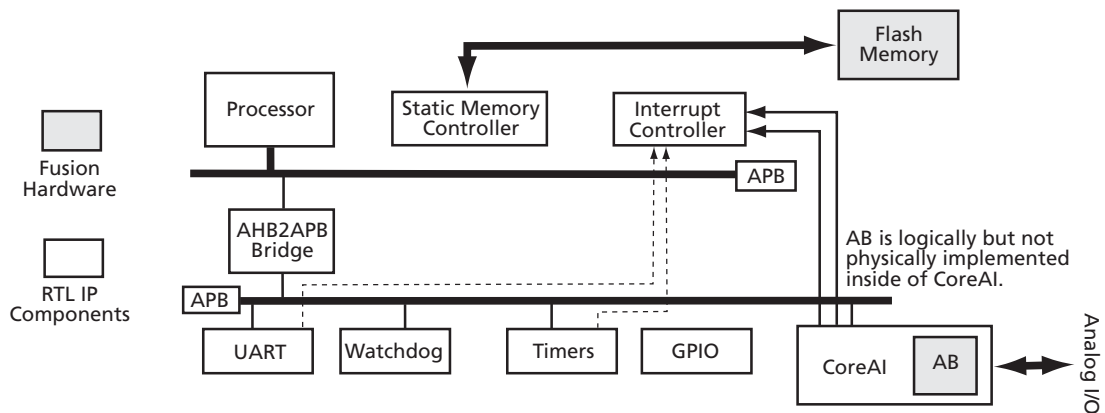

Figure 1-26 • Embedded Processor System Using CoreAI
For the ARM-based embedded processors, Actel offers the Analog Interface IP (CoreAI) to communicate with the Analog System of the mixed-signal Fusion FPGA. CoreAI allows for simple control of the analog peripherals within Fusion. This control can be implemented with an embedded microprocessor within the FPGA fabric. The AMBA APB slave interface is used as the primary control mechanism within CoreAI. CoreAI instantiates the Analog Block (AB) macro, which includes the Analog Configuration MUX (ACM) interface, Analog Quads, and Real-Time Counter (RTC). The block diagram in Figure 1-26 is an example embedded processor system using CoreAI. Refer to the *Fusion FPGA Fabric User's Guide* for additional details on the Fusion FPGA embedded microprocessor.